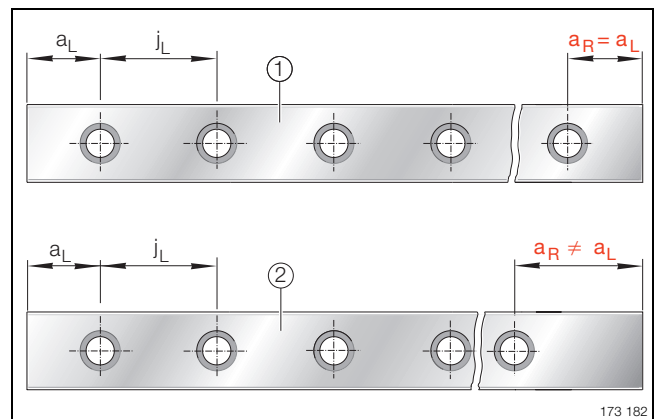
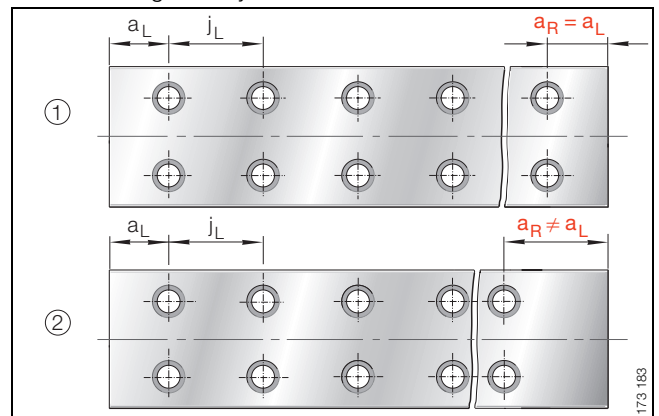

Figure 5 · Symmetrical ① and asymmetrical ② hole patterns for guideways with one row of holes
Figure 6 · Symmetrical ① and asymmetrical ② hole patterns for guideways with two rows of holes
The guideways have a symmetrical hole pattern (Figure 5 and Figure 6). For an asymmetrical hole pattern (customer request), the following must apply:
■  $a_L \geq a_{L\min}$  and  $a_R \geq a_{R\min}$  (Figure 5, Figure 6).